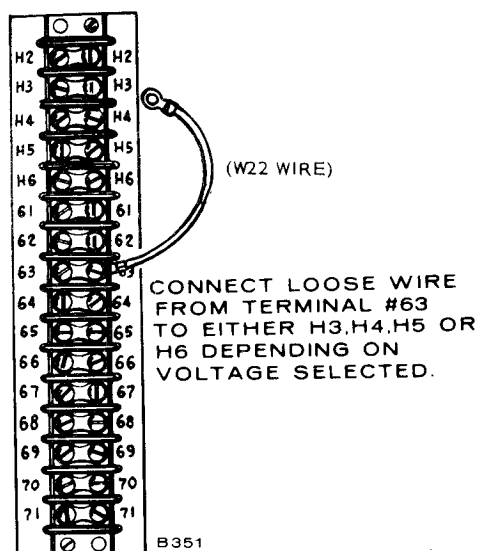

FIGURE 7. VOLTAGE REFERENCE TRANSFORMER LEAD
**Voltage Reference Transformer Lead:** Reconnection lead W22 on TB21 is a jumper wire that conducts a single phase output from the generator to the appropriate tap on the voltage reference transformer. One end of this lead is connected to terminal 63 on the terminal board. The other end will be connected to a terminal marked H3, H4, or H5 (see Figure 7), depending on the voltage option required. Refer to Table 1 and Figure 11 for voltages available and correct hookup.